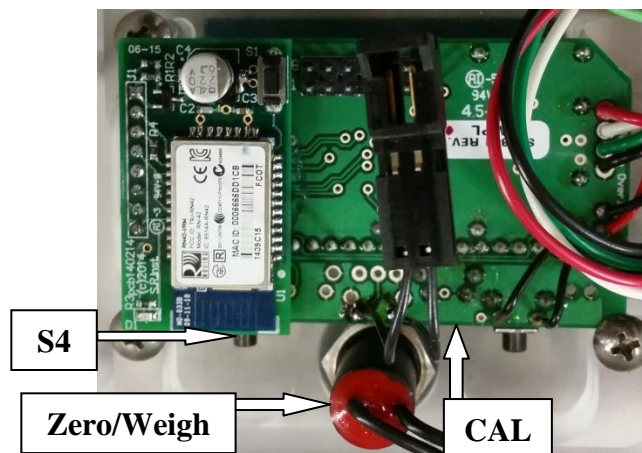

Figure 5: Calibration Buttons
STEP 6: Set the “FULL” value to the set of selected weights from Step 1. Use the **ZERO/WEIGH** button to select digit positions and use the **S4** button to change the value (Figure 5).